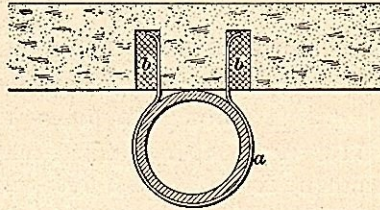

FIG. 35
**53.** The pipe may also be secured against the face of a stone wall by means of a wrought-iron band *a*, as shown in Fig. 35. Two holes *b, b* are cut in the stone, and the ends of the band are calked in the holes with lead. This style of fastening is neat and reliable.